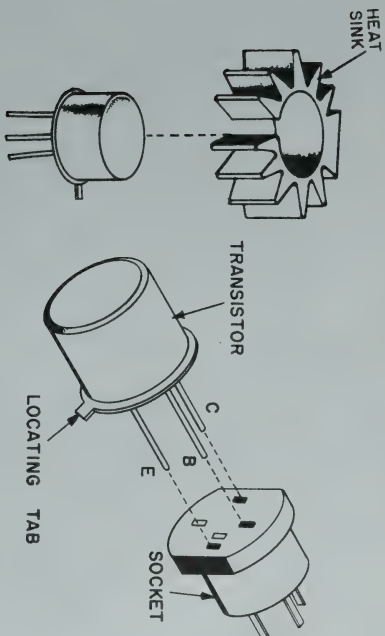

FIGURE 14. TRANSISTOR MOUNTING
SEE FIGURES 14 and 15.
- ☐ Two transistors with part number 660030 stamped on them. Cut the leads to $\frac{1}{4}$ ". Place a heat sink over the top of each transistor as shown in Figure 14. Mount these transistors in the sockets labeled TR-9 and TR-10.